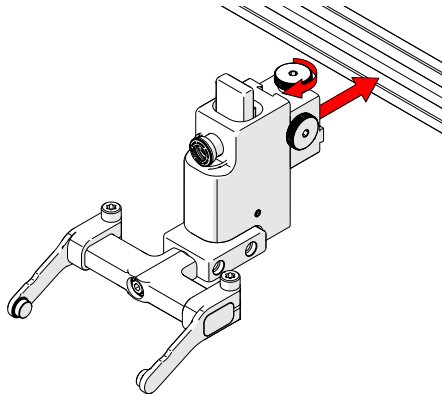

Fig. 128 - Mount probe holder to frame bar
1. Loosen the probe holder adjustment knob (*Fig. 128*) and mount the heavy duty vertical probe holder's dovetail jaw to the carrier.